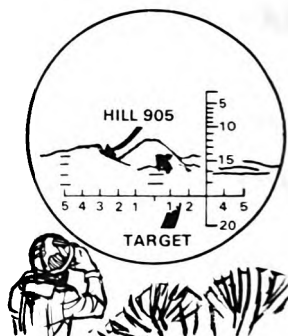

Figure 2.
905 in figure 2 is your known point. You measure the deviation from Hill 905 to the target. The deviation is three 10-mil increments, or 30 mils right of Hill 905.
(1) Right Deviations - Add. In figure 2, we know the direction to Hill 905 to be 3200 mils. With the binoculars, we measure the deviation to be 30 mils. Since the target is right of the known point we add the deviation (30 mils) to the known direction (3200 mils). The sum is the direction to the target (3230 mils).